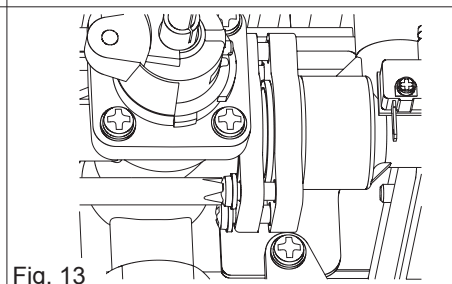

Fig. 13
- Remove the 4 screws (B) of the gas valve (fig. 13)